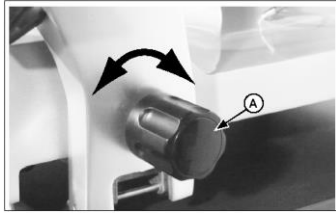
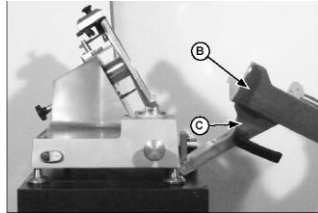

Figure 12
Figure 13
9. Pull the carriage at the beginning of the stroke. Unscrew the product holder support handle (Fig.12-A), tilt the product holder (Fig.13-B, C) and clean. Once the cleaning operation is complete position the product holder back to its normal position and screw the knob again.